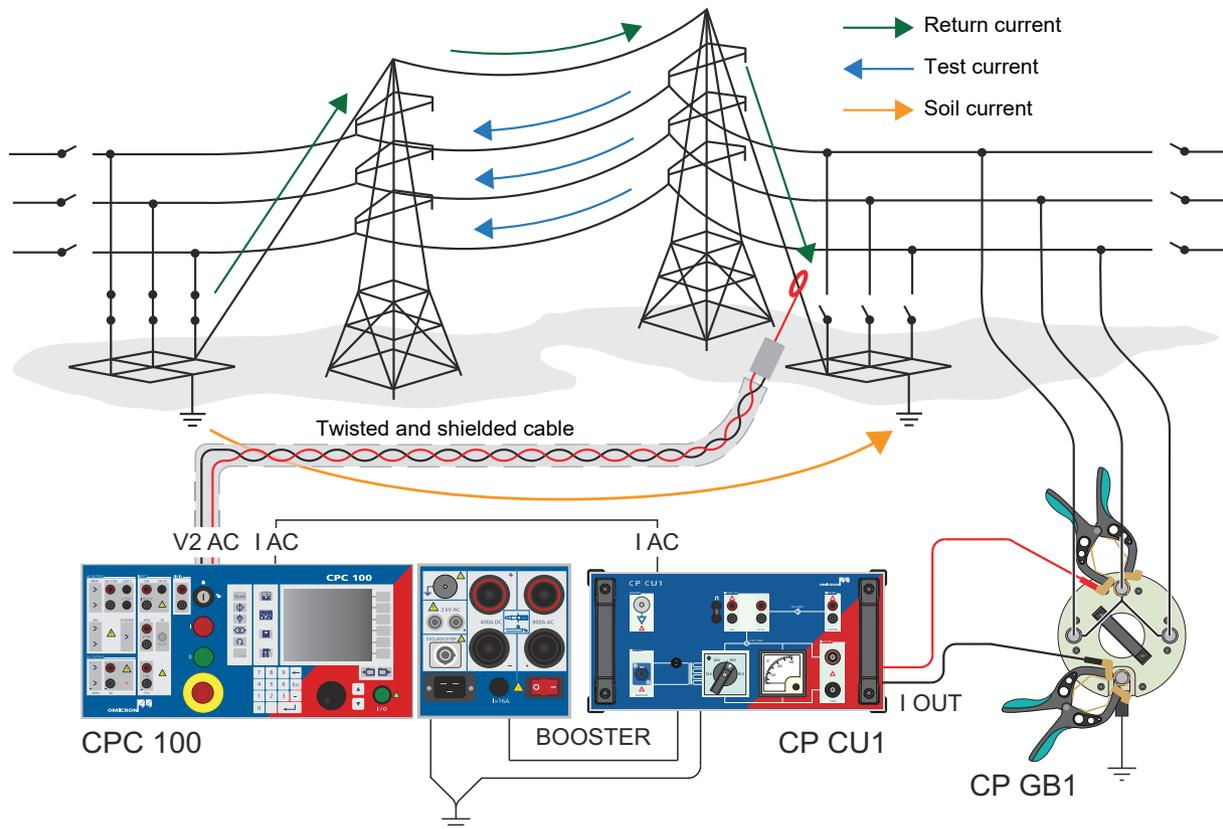

Figure 5-28: Reduction factor measurement setup
2. If criterion 3 is met, establish the measurement setup as shown in Figure 5-28 below.
The selected input for **IClamp** is **V2 AC**, since the Rogowski coil is connected to this input, as can be seen in Figure 5-28: "Reduction factor measurement setup" on page 69. The ratio in the test card settings must be selected according to the range of the Rogowski coil as marked in Figure 5-32.